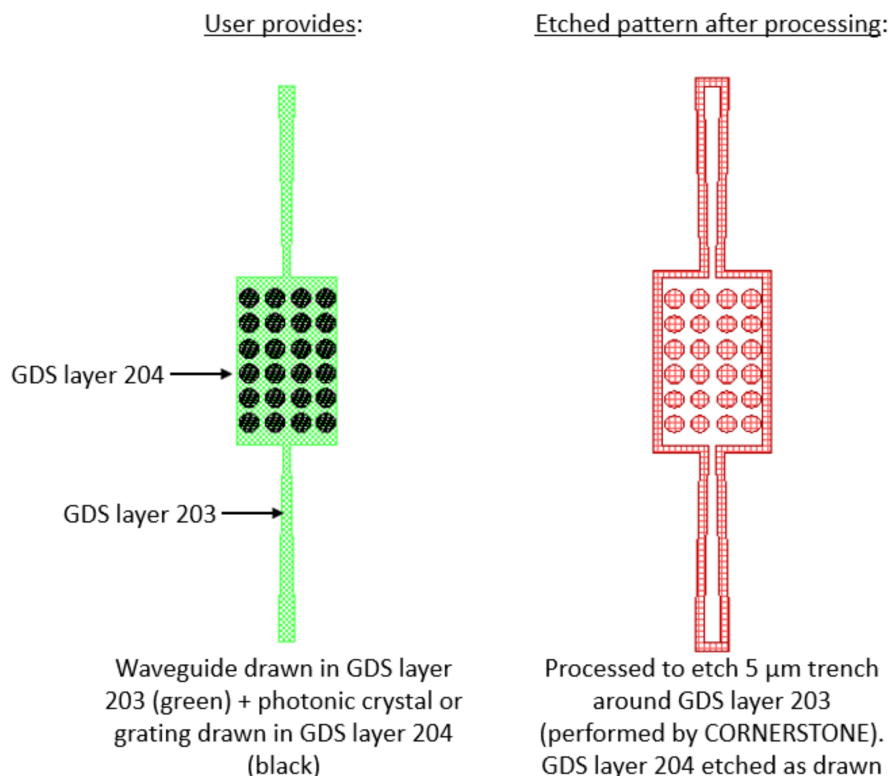

Figure 2: Example photonic crystal structure using GDS Layers 203 & 204.
- Silicon Nitride Etch 1: 300 nm full etch to BOX – GDS Layer 204 (Dark field): Drawn objects on this layer will be exposed to the silicon nitride full etch to the BOX. An example photonic crystal structure is shown in Figure 2. The important thing to note here is that the waveguide layer drawn in GDS layer 203 should overlap the structures drawn in GDS layer 204, so that when the 5 μm -wide trenches are generated by CORNERSTONE, a continuous waveguide remains. Note that the client should contact CORNERSTONE team if the design has photonic crystal structures with a diameter smaller than 600 nm to decide on whether structures need to be biased.